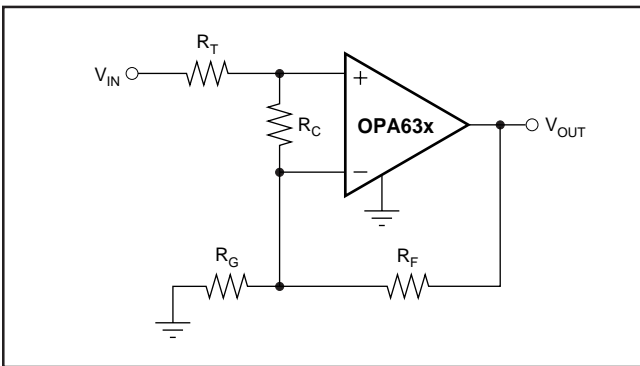

FIGURE 4. Compensated Non-Inverting Amplifier.
Figure 4 shows a non-inverting amplifier that reduces peaking at low gains. The resistor R_C compensates the OPA631 or OPA632 to have higher Noise Gain (NG), which reduces the AC response peaking (typically 5dB at $G = +1$ without R_C) without changing the DC gain. V_{IN} needs to be a low impedance source, such as an op amp. The resistor values are low to reduce noise. Using both R_T and R_F helps minimize the impact of parasitic impedances.
Since the OPA631 and OPA632 are voltage feedback op amps, a wide range of resistor values may be used for the feedback and gain setting resistors. The primary limits on these values are set by dynamic range (noise and distortion) and parasitic capacitance considerations. For a non-inverting unity gain follower application, the feedback connection should be made with a 25Ω resistor, not a direct short (see Figure 4). This will isolate the inverting input capacitance from the output pin and improve the frequency response flatness. Usually, for $G > 1$ application, the feedback resistor value should be between 200Ω and $1.5k\Omega$. Below 200Ω , the feedback network will present additional output loading which can degrade the harmonic distortion performance. Above $1.5k\Omega$, the typical parasitic capacitance (approximately $0.2pF$) across the feedback resistor may cause unintentional band-limiting in the amplifier response.
Resistors should be a very low reactance type. Surface-mount resistors work best and allow a tighter overall layout. Metal film or carbon composition axially-leaded resistors can also provide good high frequency performance. Again, keep their leads and PC board traces as short as possible. Never use wirewound type resistors in a high frequency application. Since the output pin and inverting input pin are the most sensitive to parasitic capacitance, always position the feedback and series output resistor, if any, as close as possible to the output pin. Other network components, such as non-inverting input termination resistors, should also be placed close to the package. Where double-side component mounting is allowed, place the feedback resistor directly under the package on the other side of the board between the output and inverting input pins. Even with a low parasitic capacitance shunting the external resistors, excessively high resistor values can create significant time constants that can degrade performance. Good axial metal film or surface-mount resistors have approximately 0.2pF in shunt with the resistor. For resistor values > 1.5kΩ, this parasitic capacitance can add a pole and/or zero below 500MHz that can effect circuit operation. Keep resistor values as low as possible consistent with load driving considerations. The 750Ω feedback used in the typical performance specifications is a good starting point for design. See Figure 4 for the unity gain follower application.